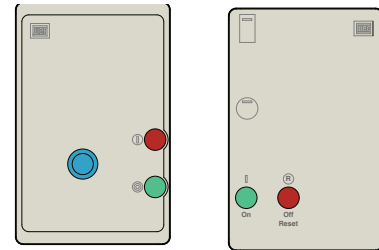

FIG. 24
Assemble the Magnetic Starter (B) [FIG. 24] by referring to the included instruction sheet: